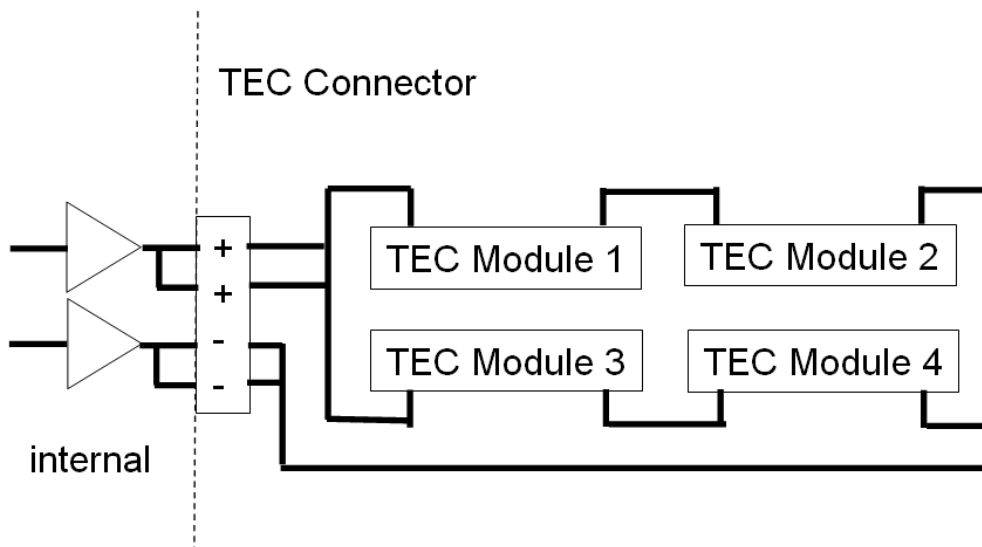

Figure 1-4 Example of TEC Driving Output for Multiple TEC Modules
**TEC:** There are 4 wires for driving TEC modules, 2 for TEC positive (marked as “+”) and 2 for negative (marked as “-”). For each polarity, one can use only 1 of the 2 wires since they are short internally. However, using 2 wires in parallel reduces the conducting wire resistance, and that is important in large current situation. In applications, several TEC modules can be configured in parallel and/or serial if more than one TEC module is necessary, as shown in Figure 1-4. The maximum driving output is 24 V or 8 A. One needs to know the characteristics of the TEC modules for getting most out of the TEC controller.